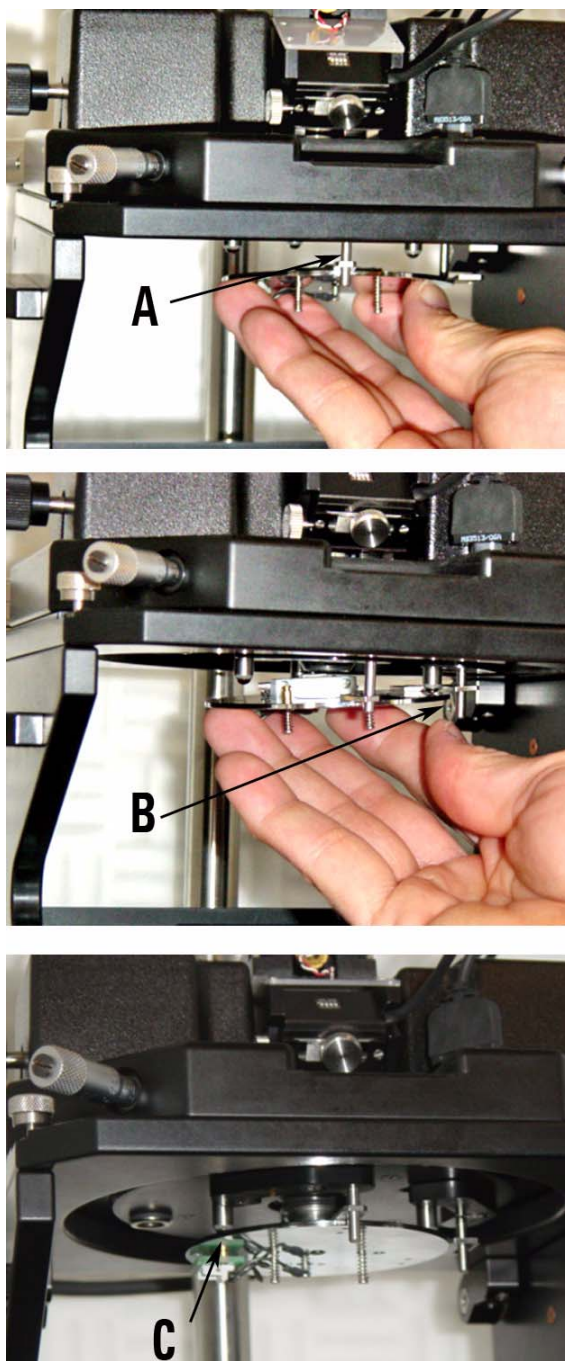

Figure 58 Mounting a sample plate.
- 2 Place the sample plate's front alignment tab over the front alignment pin, as in image A of Figure 58.
- 3 Place the second alignment tab over the alignment pin as in image B of Figure 58.
- 4 Let the magnets on the three posts gently engage the sample plate to hold it in place, as in image C of Figure 58.